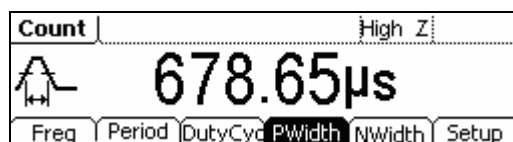

Figure 3-16
(4) Positive width view: press **PWidth**, the positive width will display as figure 3-16;